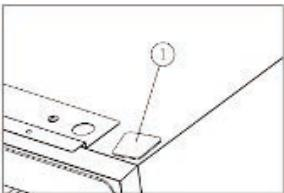

Figure 4
- Install the lid ①.[Figure 4]